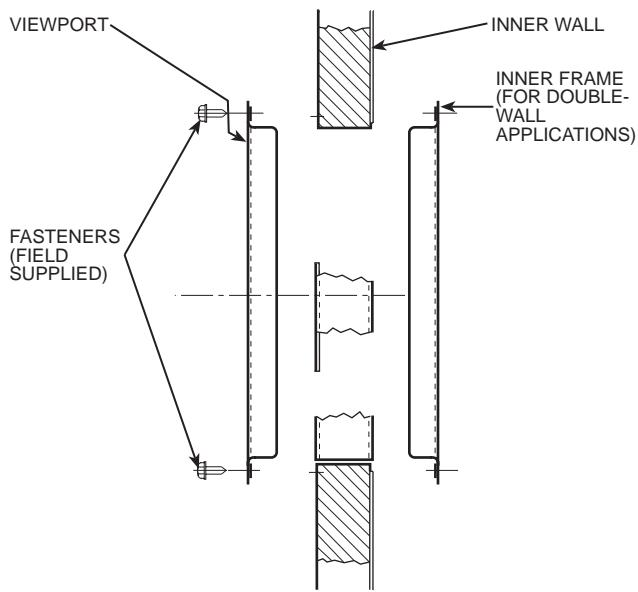

Fig. 2 — Mounting View Port
NOTE: For double wall applications, also insert inner frame assembly. See Fig. 2.
8. Once it is determined that fit is proper, remove the view port and apply sealer (field-supplied) where sheet metal surfaces contact. Remount view port. Secure with fasteners. See Fig. 2.